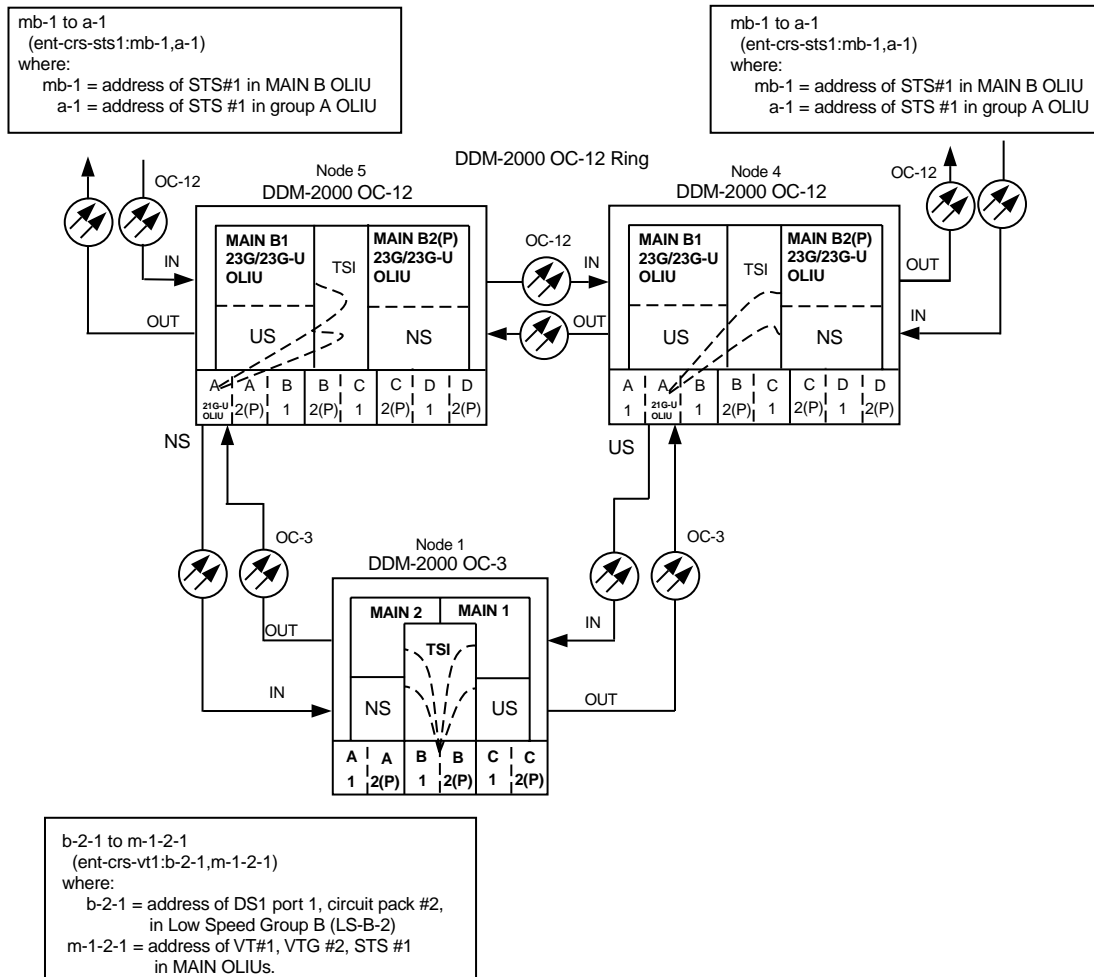

Figure 8 – Example of Dual Homing OC-12/OC-3 Cross-Connections
2. Verify system configuration is same as specified on work order or circuit order. For example, see Figures 8 thru 13.
Cross-connections consist of drop and pass-through connections. For example in Figures 8 and 11, drop connections are made at Nodes 1, 4, and 5. Pass-through cross-connections are made at other nodes in the network (Figures 2 and 4). Also, cross-connections must be made in all interconnected rings, including other DDM-2000 OC-3 rings, DDM-2000 OC-12 rings, and FT-2000 OC-48 rings, as required. See `ent-crs-()` command in the Commands and Reports section of Volume 1 of this manual.
In dual homing configurations (Figures 8, 9, 11, and 12), **OLI** circuit packs must be installed in the correct slots in the host OC-12 nodes to support the direction of traffic required. For example in Figures 8 and 11, for traffic to be routed between Node 1 (See Figures 2 and 4) and the OC-3 system, the **21/22-Type OLI** must be installed in **FUNCTION UNITS** group **A, B, C, or D**, slot **1** of Node 5 and **FUNCTION UNITS** group **A, B, C, or D**, slot **2(P)** of Node 4. This is required because traffic entering Node 5, slot **FN-A-1** from the OC-3 shelf is automatically connected to the **MAIN-B-1 OLI** when cross-connections are made. Traffic entering slot **FN-A-2(P)** is automatically connected to the **MAIN-B-2 OLI**.
10. At both terminating (drop) nodes of the circuit being established, use the `ent-crs-()` command to make the terminating cross-connections (for example at the OC-3 node in Figures 8 and 11, `ent-crs-vt1:m-1-2-1,b-2-1:cct=twoway`)
11. At the host OC-12 ring node sites, make proper cross-connections. For example, in Figure 8 at Node 5, if STS-1 channel #1 from the OC-3 **MAIN-1 OLIU** is to be cross-connected to STS#1 in the OC-12 **MAIN-B-1 OLIU** then the command `ent-crs-sts1:mb-1,a-1:cct=twoway` would be used to make the cross-connection.